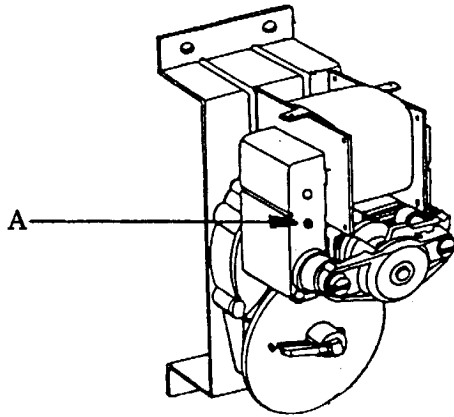
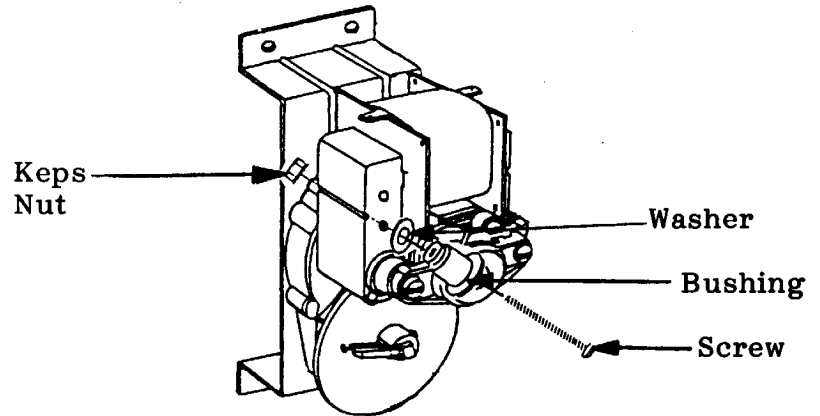

Figure 1
Figure 2
3. Locate the hole which goes through the motor coils. See "A", figure 1.
4. Place the screw in the bushing, then the washer so the washer will be between the motor coil and the bushing. Note the position of the bushing. (See figure 2.)
5. Place the screw through the hole ("A", figure 1), and secure with keps nut. (See figure 2.)